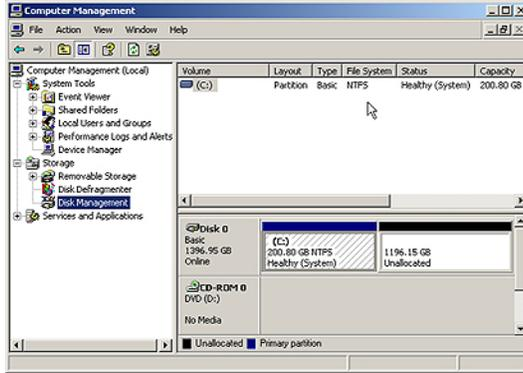

Figure 2-64
34) After the system has booted up into Windows (and you've re-run the initialization procedures as noted above), right-click on the **My Computer** icon and then select the **Manage** option. In the ensuing **Computer Management** dialog, click on the **Disk Management** item (Figure 2-64).